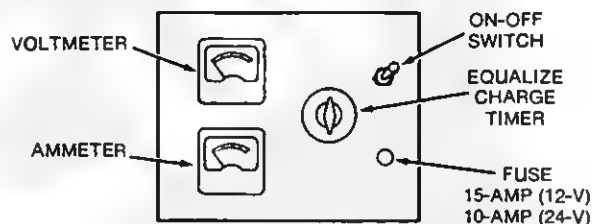

FIGURE 3. BATTERY CHARGER
The charger has two modes of operation: (1) equalize charge, and (2) float charge. The manually set equalize charge timer (Figure 3) raises the charger output voltage for a selected time period up to 12 hours. The charger returns to float charge at the end of the selected time period.